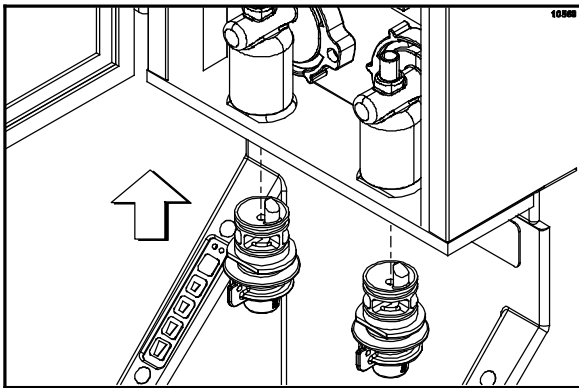

Figure 13
12. Insert the mixing nozzles into the pump heads. Turn the mixing nozzles to lock them into position. (See Figure 13.)